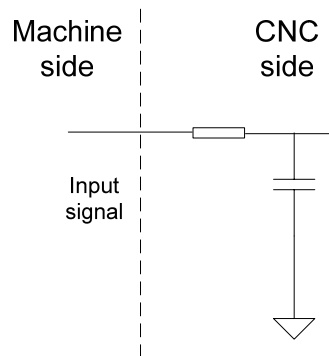

Fig. 2-29
1. The T01~T08, TCP signals input are employed with photocoupler, its interior circuit is shown in Fig. 2-29: